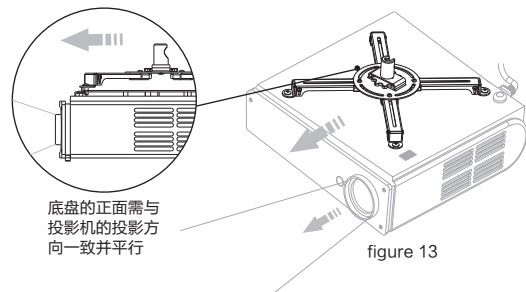

figure 13
5.The front or back of adjuster must be parallel to the surface of projector as figure 13.